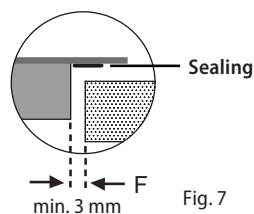

Fig. 7
11. The bottom of the hob base is fitted with a sealant to prevent it from moisture and leakage of liquids. After installation the space between the edge of the hob and the worktops should be min. 3 mm (Fig. 7).